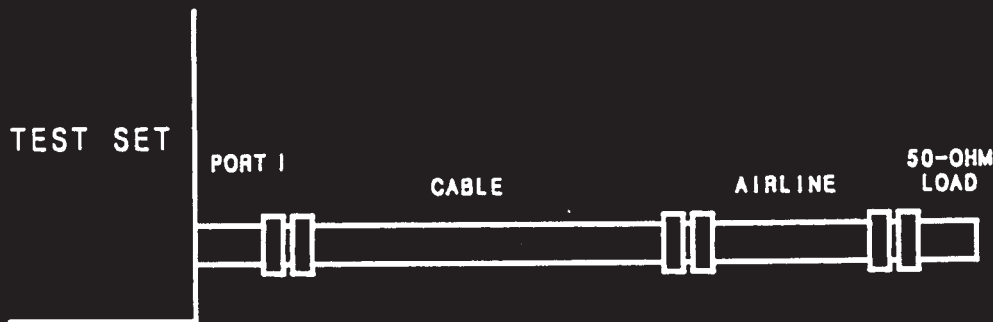

Figure 1. Return Loss Set-up
**Return Loss.** Figure 1 shows the test setup to measure return loss. One end of the cable under test is attached to port 1 of the test set. The other end of the cable is connected to a 10 cm airline, which is terminated with a 50-ohm fixed load.